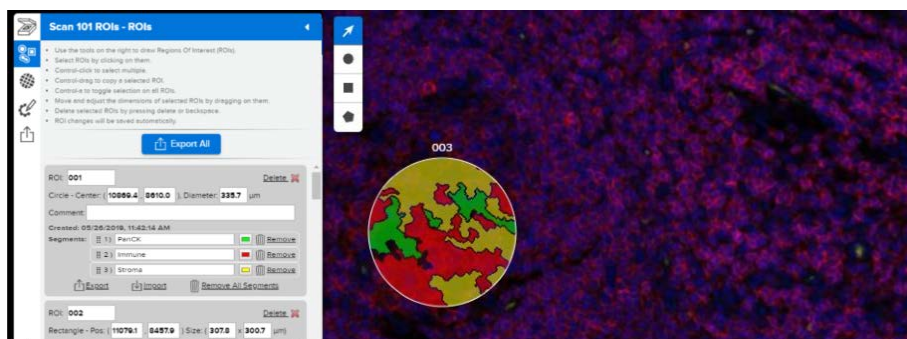

Figure 33: Scan Workspace ROIs List with segments
5. Open the **ROIs List** (see Figure 33) to: